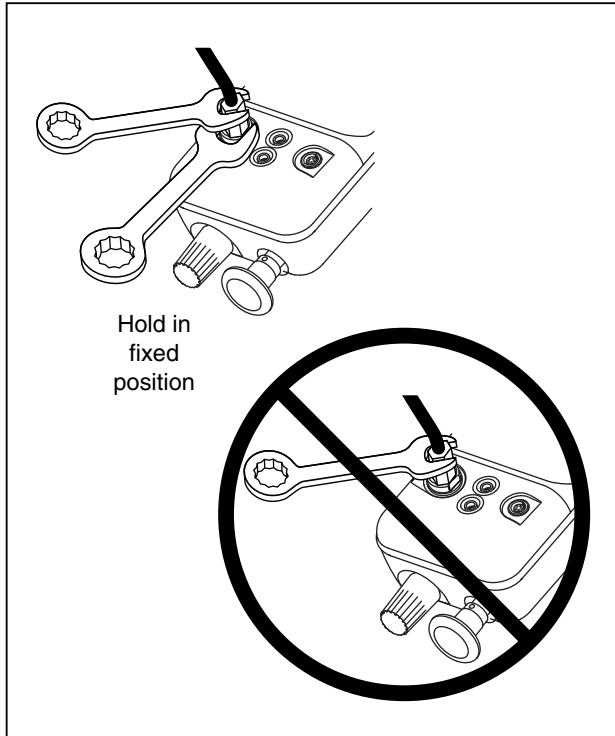

Figure 1. Connection Technique
- **Do not apply torque between the pressure fitting and the Calibrator case. See Figure 1 for the proper use of tools.**